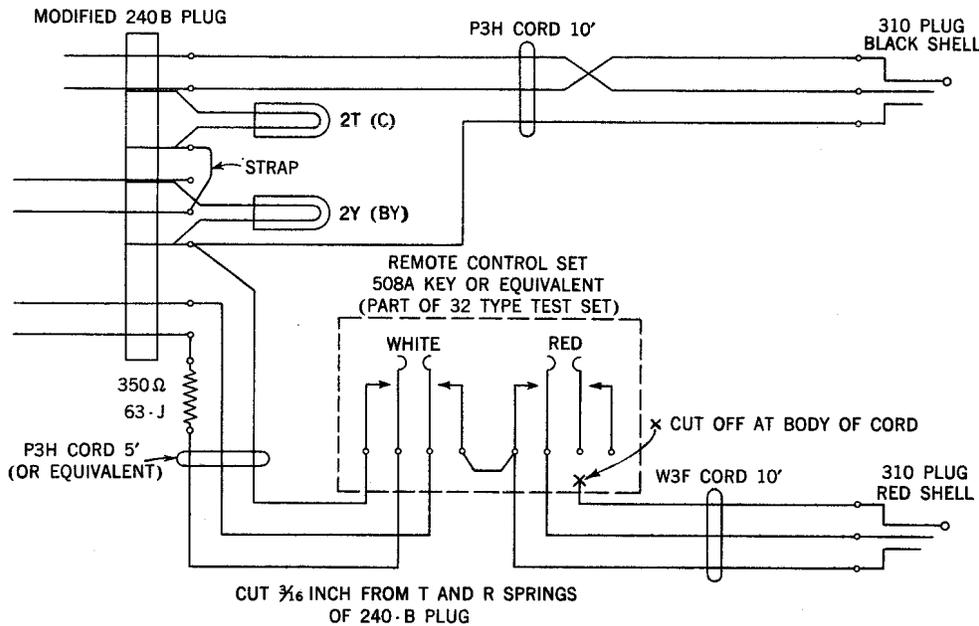

Fig. 1
2.02 Test cord assembly to be prepared locally as shown in Fig 1. Rearrange the lamp springs on 240B plug to permit connecting as shown and equip with 2T and 2Y lamp. Modify P3H cord (or equivalent), 5 feet long, with suitable cord tips for connecting to remote control key. Connect P3H cord and W3F cord to test plug and remote control set as shown. Mount 63J resistance on handle of test plug.
2	Insert red shell plug of test cord assembly (Fig. 1) into BR jack of test set.
- 6 Insert black shell plug of test cord assembly (Fig. 1) into V-BR jack of test set.
- 8 Insert black shell plug of test cord (Fig. 1) into V-M jack of test set.